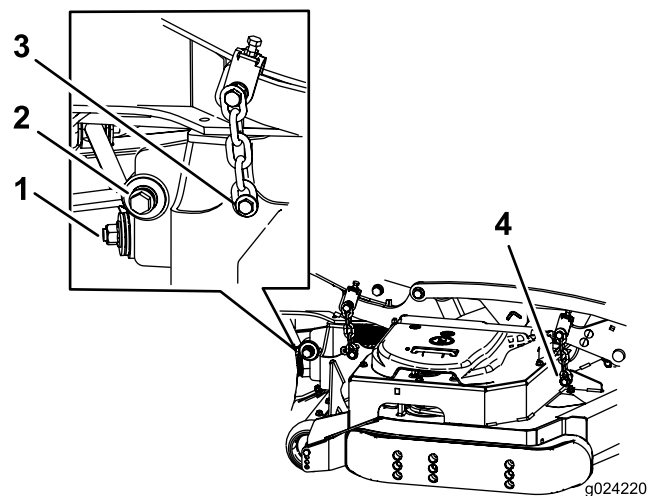

Figure 104
7. Remove and retain the hardware on both sides of the deck as shown in Figure 104.